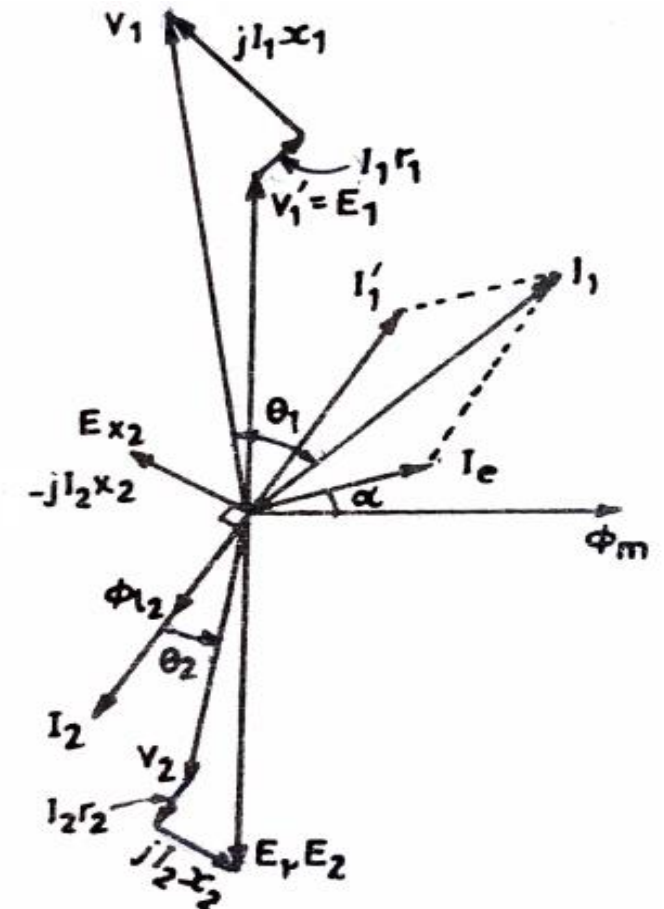

Fig. 8.14 (a)
- ✓ The transformer phasor diagram under lagging load is shown in **Fig. 8.14 (a)**.